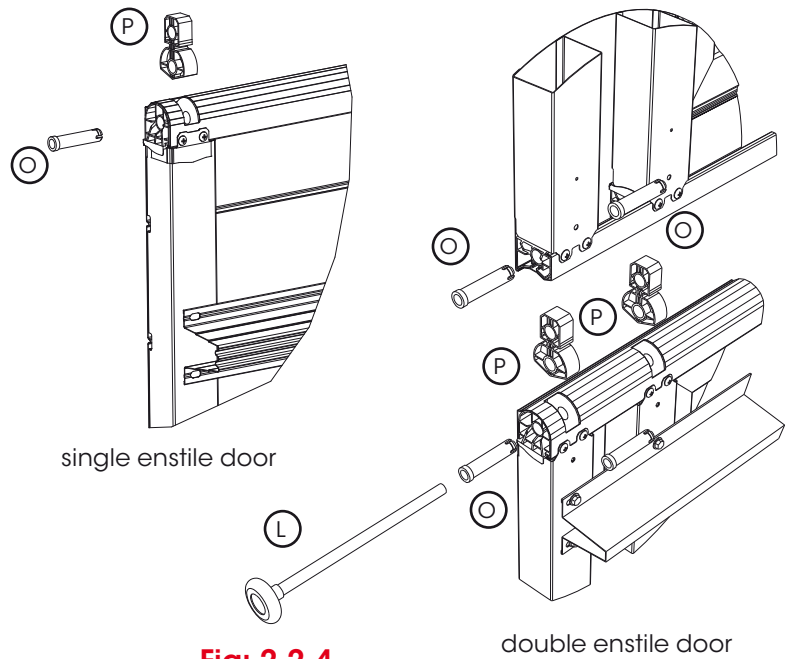

Fig: 2.2.4
- g) Insert the polypropylene hinge links (P) into the recesses of the top of the panel and fix into place using the white hinge pins (O) Fig 2.2.4. For Insul-Shield™ (refer to appendix).